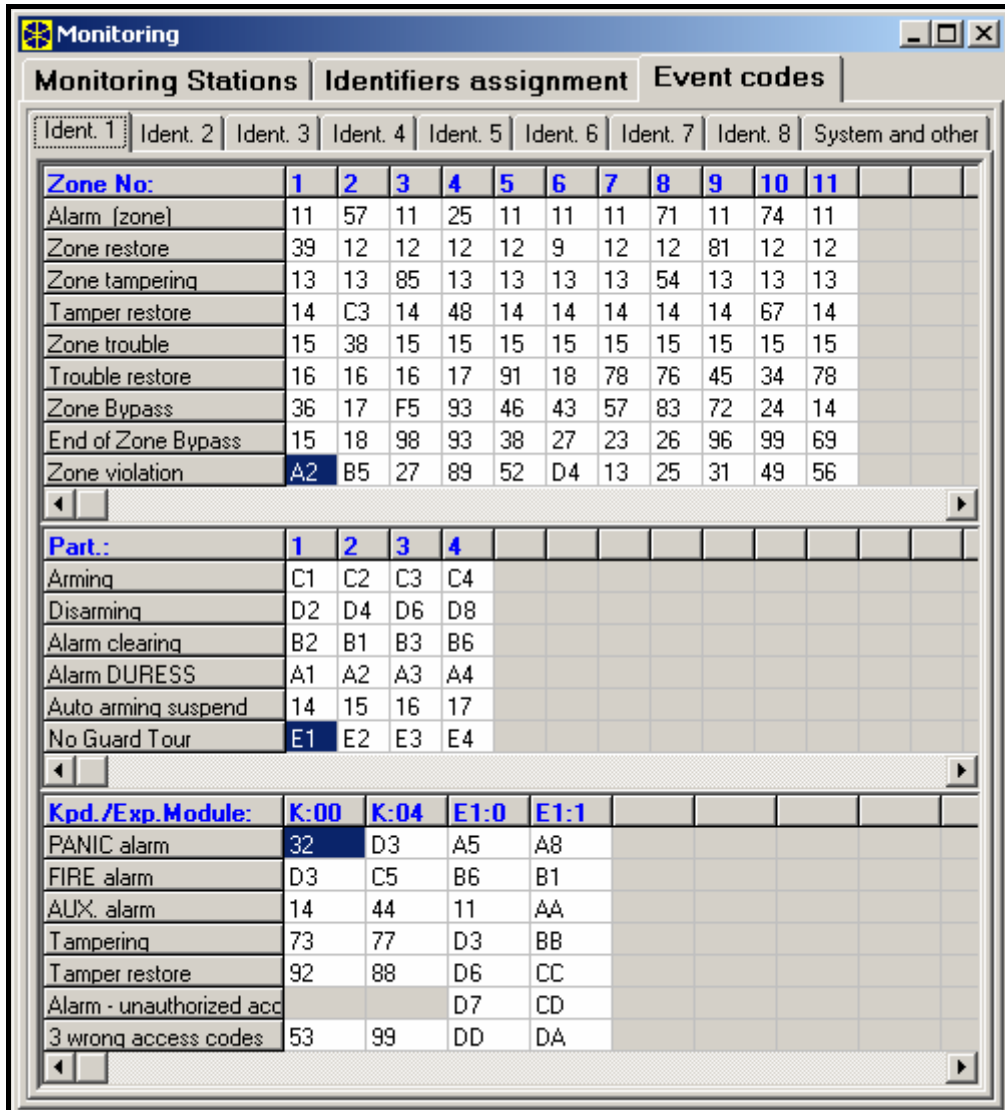

Fig. 18. Programming of monitoring codes for pulse formats.
Event codes are programmed after the division is made. The DLOADX program (and corresponding service functions) shows all events assigned to the identifier, which facilitates correct programming of codes (the event code window shows only the fields for those codes which will be transmitted with the given identifier – see Figure 18).
- The event codes shown in Figures 18 and 19 are taken at random to illustrate an example of programming. They should be programmed as recommended by the monitoring station operating personnel.